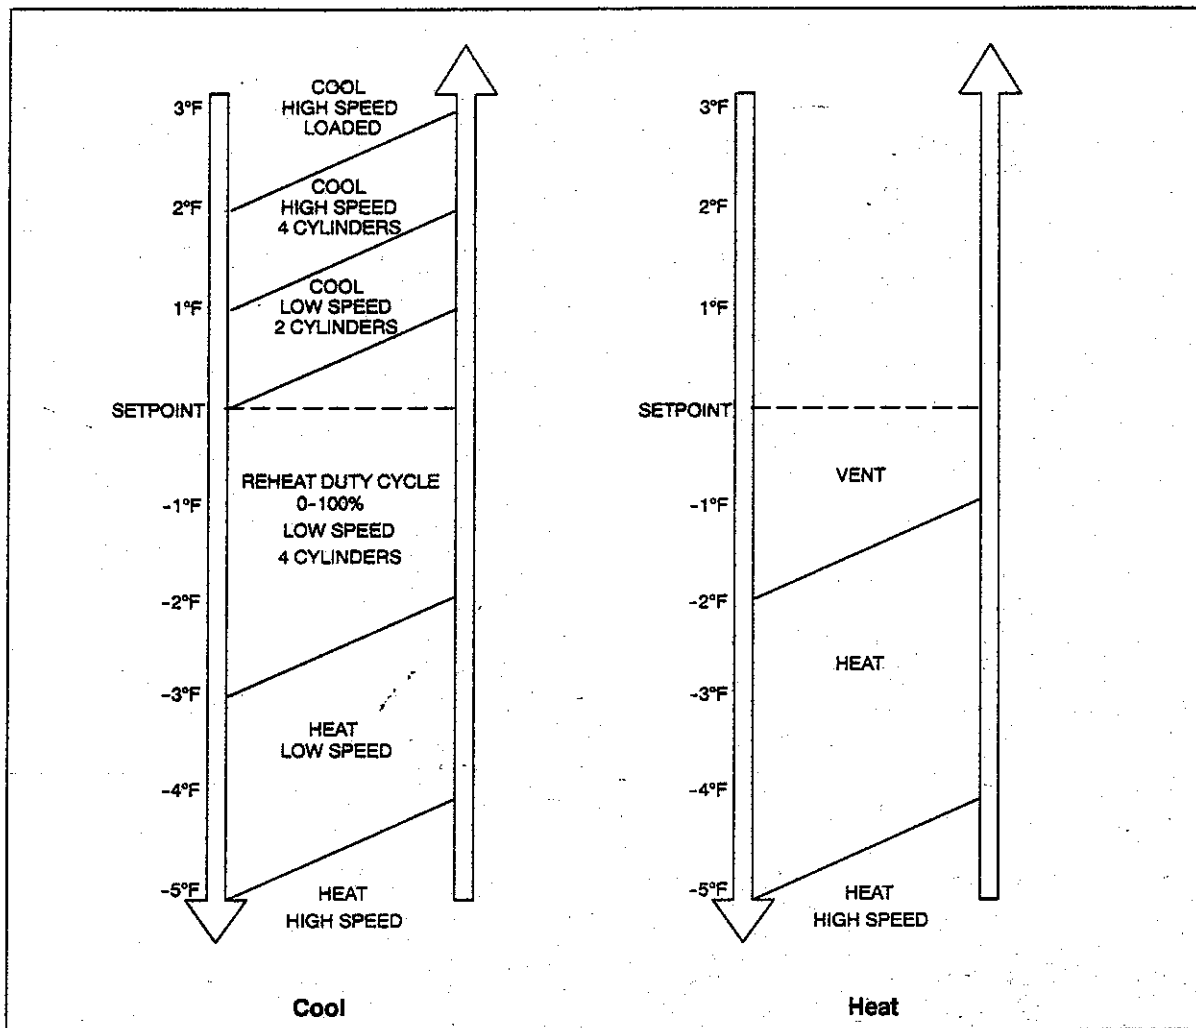

Figure 2-1 Capacity Control Diagram
The system is operated by a Carrier Transicold Micromax microprocessor controller which consists of a logic board (*Figure 1-8*), relay board (*Figure 1-7*), and manual operator switches. The logic board regulates operational cycles of the system by energizing or de-energizing Relay Board relays in response to deviations in interior temperature. Modes of operation including Cooling, Heat and Vent. Refer to *Figure 2-1* and the following paragraphs for a description of each mode.
*Figure 2-1* shows the Logic Board actions at various temperature deviations from set point. On rising temperature, changes occur when the temperature rises above Logic Board set points. On falling temperature, changes occur when temperature falls below Logic Board set point. The system will operate in these modes unless pressures override the Logic Board settings.